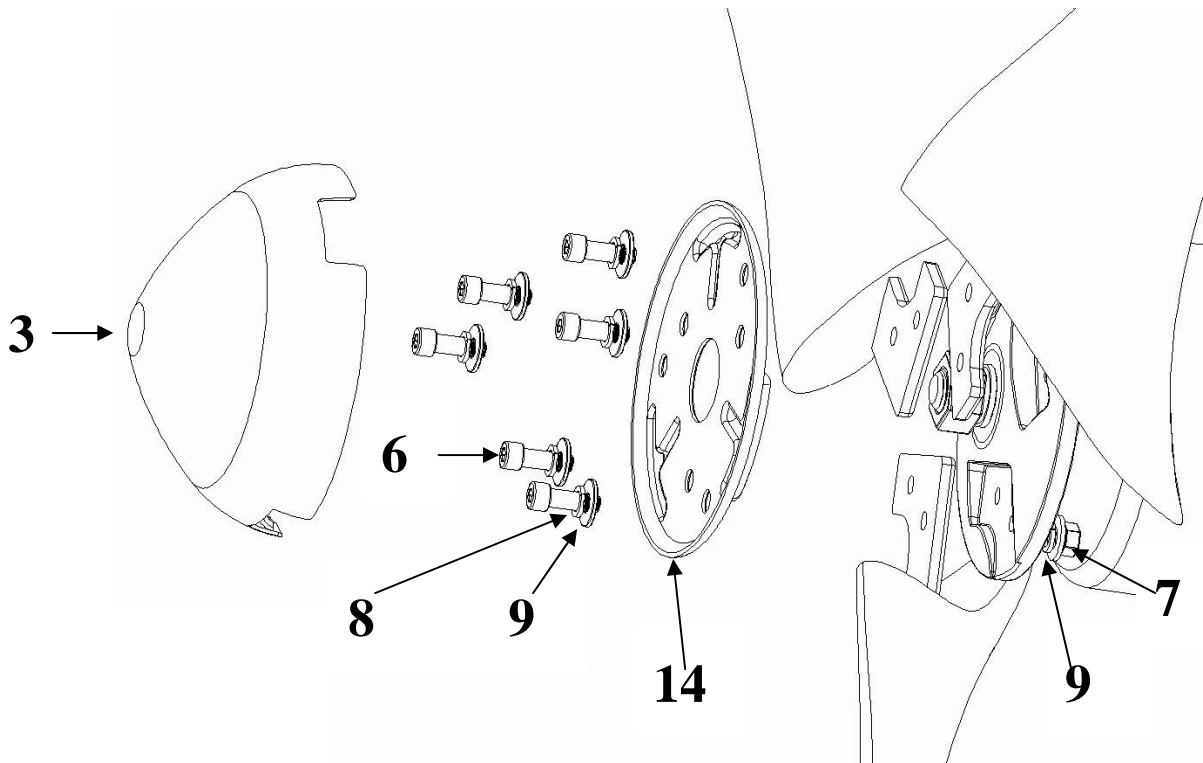

Figure 4 Assembly of blades and spinner
- (1) Fasten the three blades into the circular hub using two 12mm-diameter, 63mm-long bolts(6) for each blade. To refer Figure 4, firstly put one spring washer(9) through the bolt, follow by one flat washer(8), insert them through the blade, stainless steel plate(14) and hub, put another spring washer(9) through the protruding part of the bolt, apply Loctite to the thread, and fasten with a nut(7). Press the spinner into the hub.